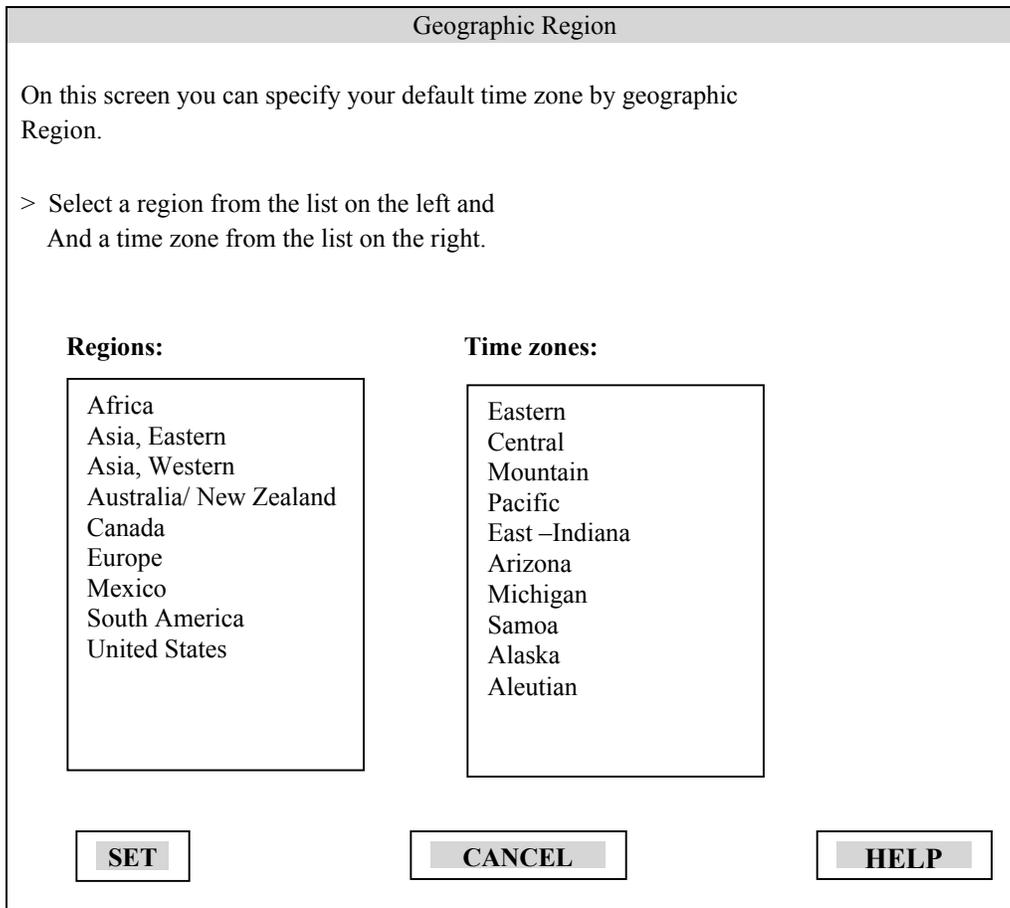

Figure 3-26 Geographic Region Screen
23. A window titled “Geographic Region” (Figure 3-26) is displayed.